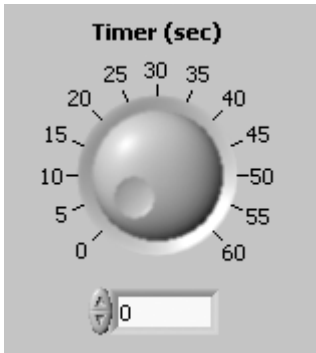

Figure 13.9
1. Build a front panel with a knob and select the **Visible Items>>Digital Display** option, as shown in Figure 13.9.